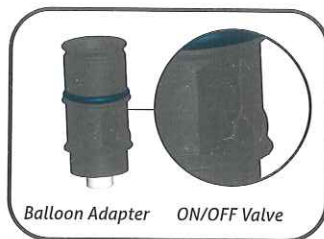

Figure-09
- Prior to inflating the balloon, make sure the Balloon Adapter valve is in the "ON" position. \(Figure-09\).